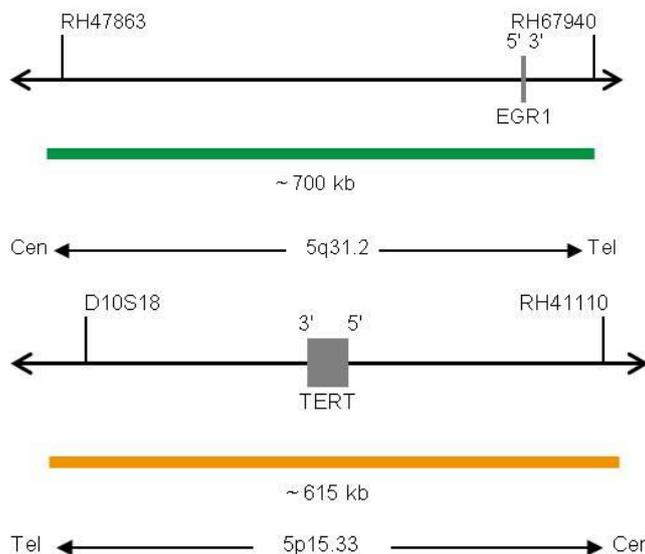

Fig. 1: Top: SPEC EGR1 Probe map; Bottom: SPEC 5p15 Probe map (not to scale)
- ZyGreen (excitation 503 nm/emission 528 nm) labeled polynucleotides (~10 ng/μl), which target sequences mapping in 5q31.2* (chr5:137,190,679-137,892,461) harboring the EGR1 gene region (see Fig. 1).
- ZyOrange (excitation 547 nm/emission 572 nm) labeled polynucleotides (~4.5 ng/μl), which target sequences mapping in 5p15.33* (chr5:974,089-1,588,209) harboring the TERT gene region (see Fig. 1).